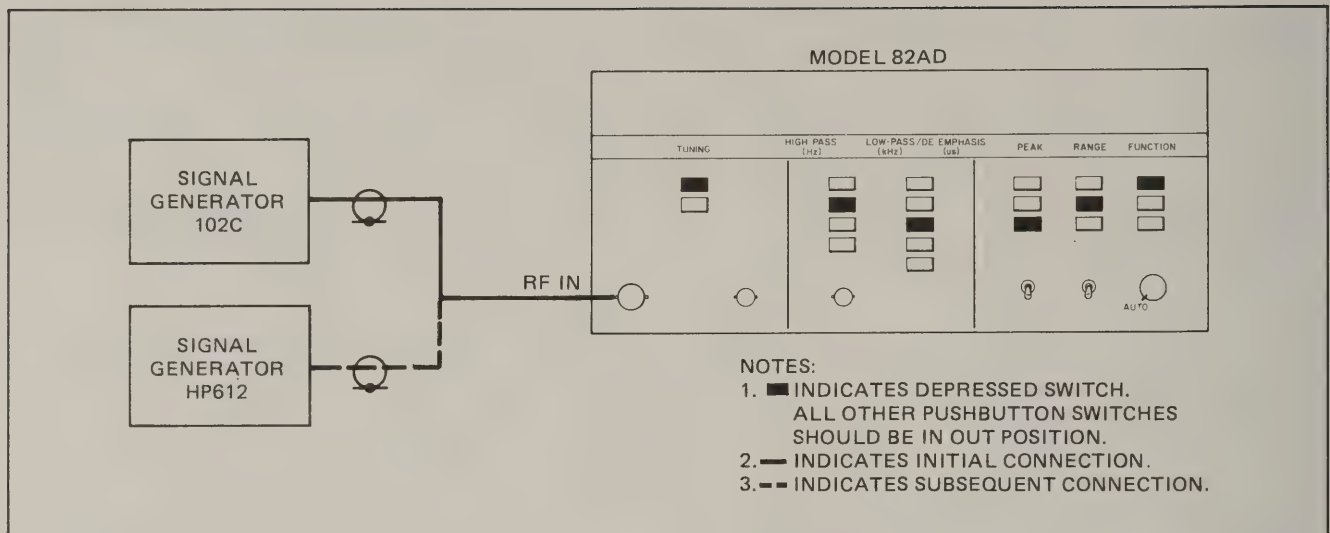

Figure 2-8 RF Sensitivity Check, Test Setup
a. Connect the Model 82AD and test equipment as shown in Figure 2-8.
b. Depress the Model 82AD switches indicated in Figure 2-8. Set the LEVEL control to the AUTO position.